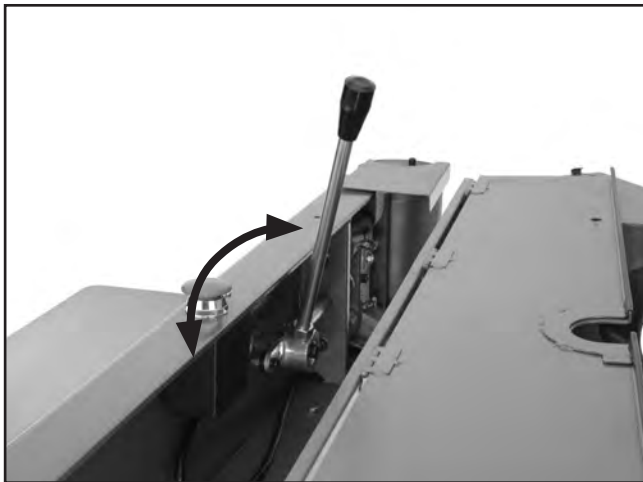

Figure 13. Belt tensioning lever in released position.
2. Lift belt tensioning lever, as shown in **Figure 13**.